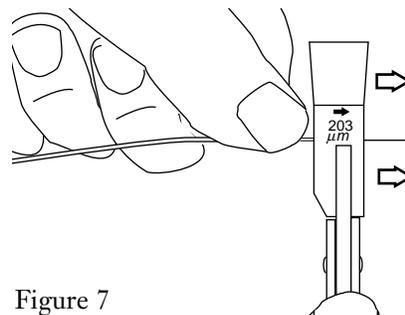

Figure 7
4.9 Using the No-Nik stripping tool, remove the tight-buffered coating until the desired length is obtained (Figure 7).